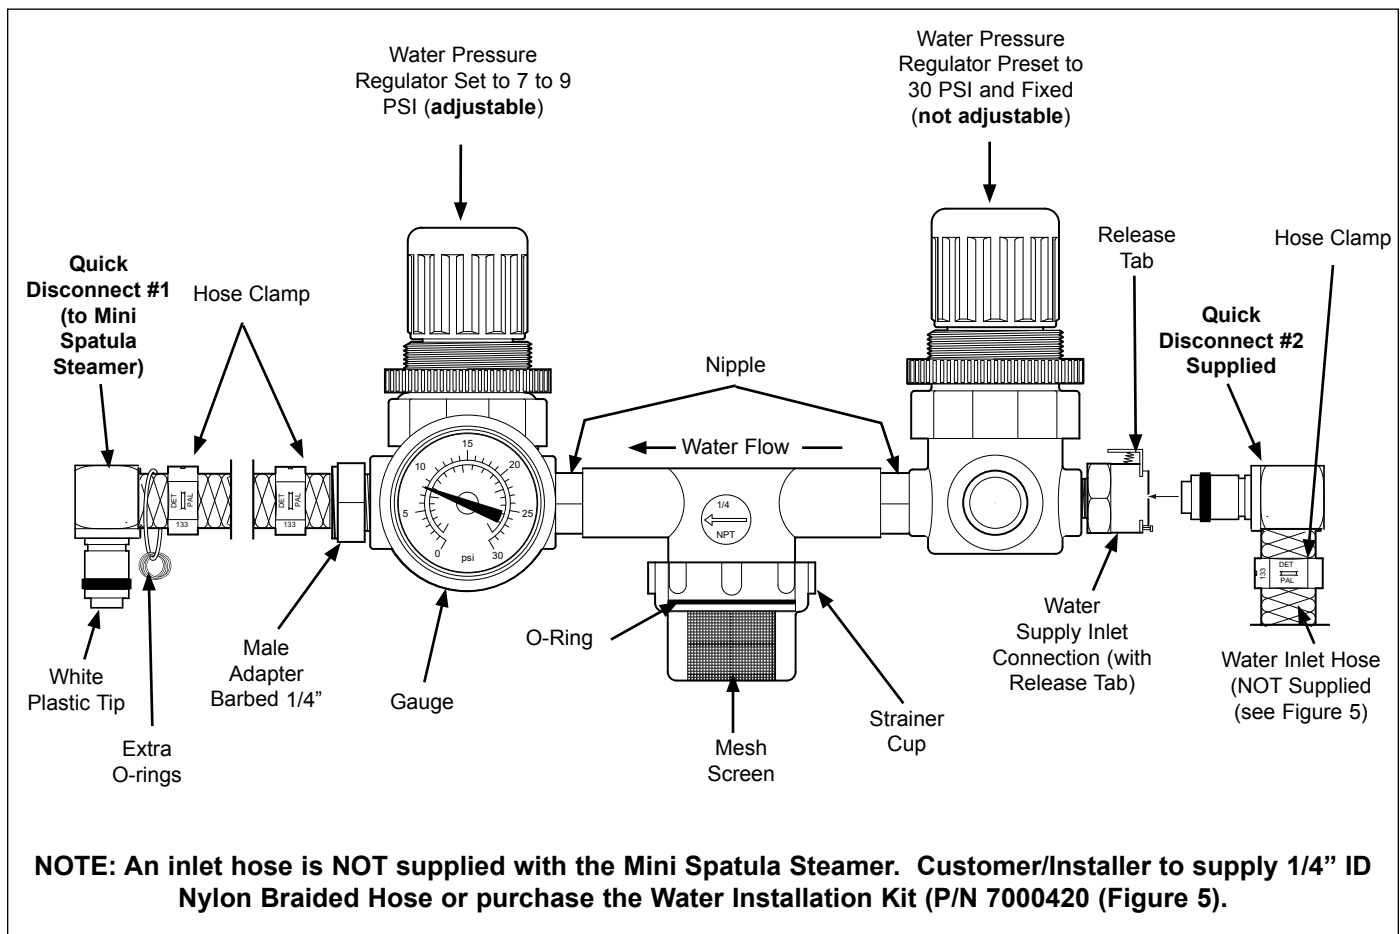

Figure 5. Dual Water Pressure Regulator
1. Press the Release Tab and remove the Quick Disconnect Fitting #2 (Figure 5). Unscrew the clear, plastic strainer "cup" and carefully remove the mesh strainer screen (Figure 5).
The Dual Water Pressure Regulator uses a fixed regulator and an adjustable regulator (Figure 5). The adjustable regulator must be set between 7 - 9 PSI (0.4 - 0.6 kg/cm² or 48 - 62 kPa). Follow these steps to adjust this regulator:
2. Over a bucket, press and hold the white plastic tip on the Quick Disconnect #1 (Figure 5 until good, steady water flow is noted (this will purge all air out of the line). Release and note the pressure on the Water Pressure Regulator gauge. It should read 7-9 PSI. If it reads more or less, adjust the pressure by pulling the black knob upwards and turning it clockwise to increase or counter-clockwise to decrease the water pressure. Push the knob down to lock it in place.
NOTE: Three (3) spare O-Rings are attached to the Quick Disconnect #1 (Figure 5). Additional O-Rings can be obtained by ordering part number 020P117 (10 pack).
5. Wipe down the entire exterior of the unit (Figure 5) with a clean, hot, damp cloth (not dripping wet) and wipe dry.
4. With the unit cool, use a wire brush and/or scraper to loosen and remove the excessive calcium/mineral deposits from the generator surface (Figure 5). Remove the loose build up, wipe the generator with a clean, damp cloth.
3. Set the adjustable Water Pressure Regulator (Figure 5) between 20-25 PSI.
The Water Strainer (Figure 5) protects the unit from any foreign debris in the water line that could get into the food, damage the unit's solenoid (causing the unit to leak or flood), or interfere with the equipment's proper and consistent operation.
1. Remove the Quick Disconnect #2 (Figure 5) from the incoming water supply or shut off the water supply valve to the unit. Unscrew the clear plastic strainer "cup" and carefully remove the mesh strainer screen.